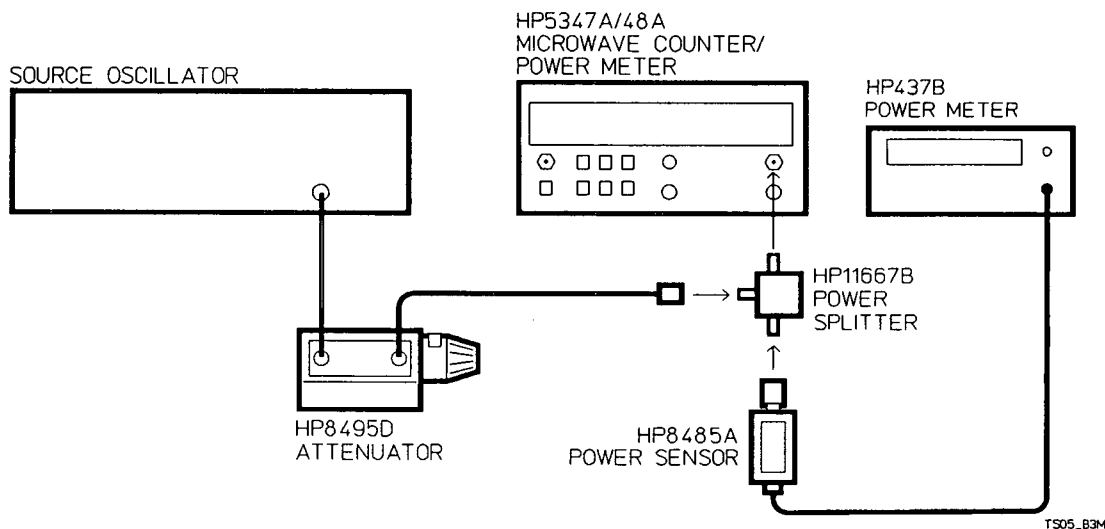
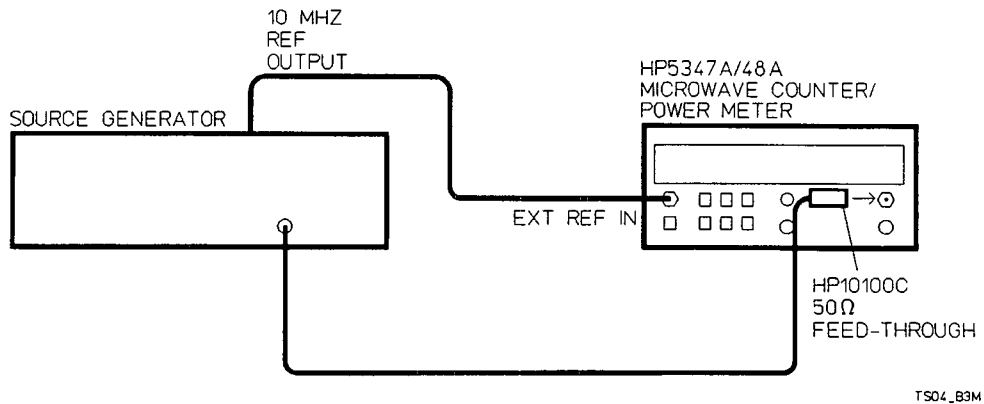

Figure 4-1. INPUT 2, 50 MHz-525 MHz Verification Test Setup
Figure 4-2. INPUT 2, 10 MHz-50 MHz Verification Test Setup
**Description:** This check is in two parts to check both the high frequency measuring capability of the 50  $\Omega$  input impedance and the low frequency measuring capability of the 1 M  $\Omega$  input impedance of INPUT 2. In Part I, the HP 5347A/48A is set to the 10 MHz-525 MHz range, 50 $\Omega$  impedance, and a 25 mV rms (-19.3 dBm) signal is applied to INPUT 2. The source is set to selected frequencies and the HP 5347A/48A is checked for proper counting. Next, the HP 5347A/48A's 1M $\Omega$  impedance for the lower frequency range is checked. Since the same test setup in *Figure 4-1* with the addition of a 50 $\Omega$  feedthrough is used to perform the 80 MHz check, the 80 MHz check is performed before the 10 Hz-50 MHz check. A 25 mV rms (-19.3 dBm) 80 MHz signal is applied to INPUT 2 through a 50 $\Omega$  feedthrough, and the HP 5347A/48A is checked for proper counting. In Part II, the test setup is changed to *Figure 4-2* to test the 10 Hz-50 MHz range.
1. Connect the equipment as shown in Figure 4-1.
*The 1 M  $\Omega$  impedance of INPUT 2 is checked with an 80 MHz input signal before it is checked with signals from 10 Hz through 50 MHz. This is done for convenience since to perform the 80 MHz check you need to use the test setup in Figure 4-1 with the addition of the 50 $\Omega$  feedthrough between the power splitter and INPUT 2 connector.*
1. Using the test setup in *Figure 4-1*, insert a 50 $\Omega$  feedthrough (HP 10100C) between the HP 1667B power splitter and INPUT 2 of the HP 5347A/48A.
1. Connect the equipment as shown in Figure 4-2.